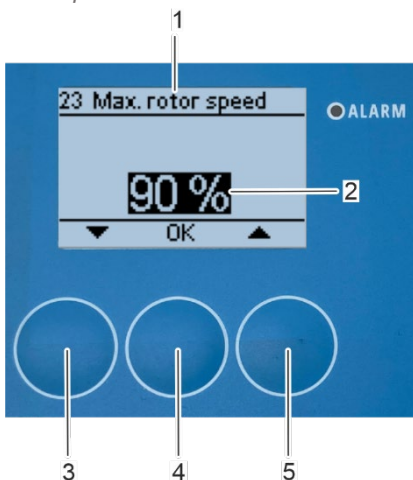

Fig. 130: Set maximum rotor speed
⇒ The "23 Max. rotor speed" submenu appears on the display (Fig. 130/1).
3. Set the maximum rotor speed (Fig. 130/2) with the arrow keys [up] (Fig. 130/5) and [down] (Fig. 130/3).
4. Confirm the selection with [OK] (Fig. 130/4).